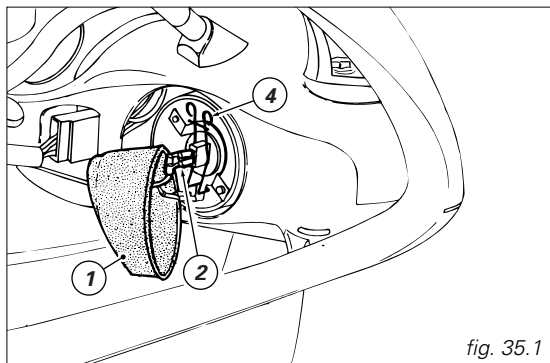

fig. 35.1
Low beam bulb (fig. 35.1):
Release the clip (4) that secures the bulb and remove it from the socket (fig. 35.1 and 35.2).